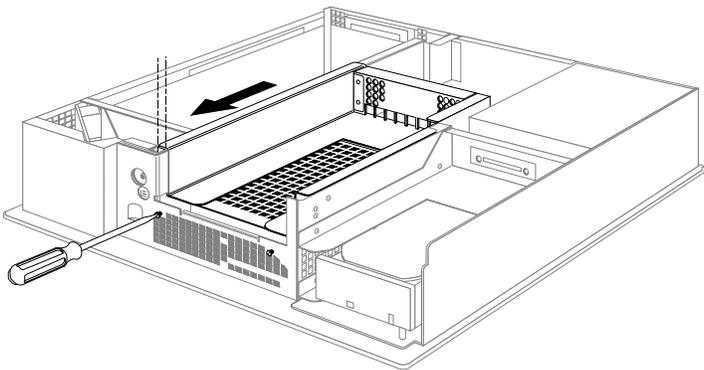

Figure 9 Installing the 5-1/4" drive tray.
- Position the drive and tray so that the tabs on the sides of the tray fit inside the slot openings in the chassis and so that the open side of the tray faces the front of the system, as shown in Figure 9.